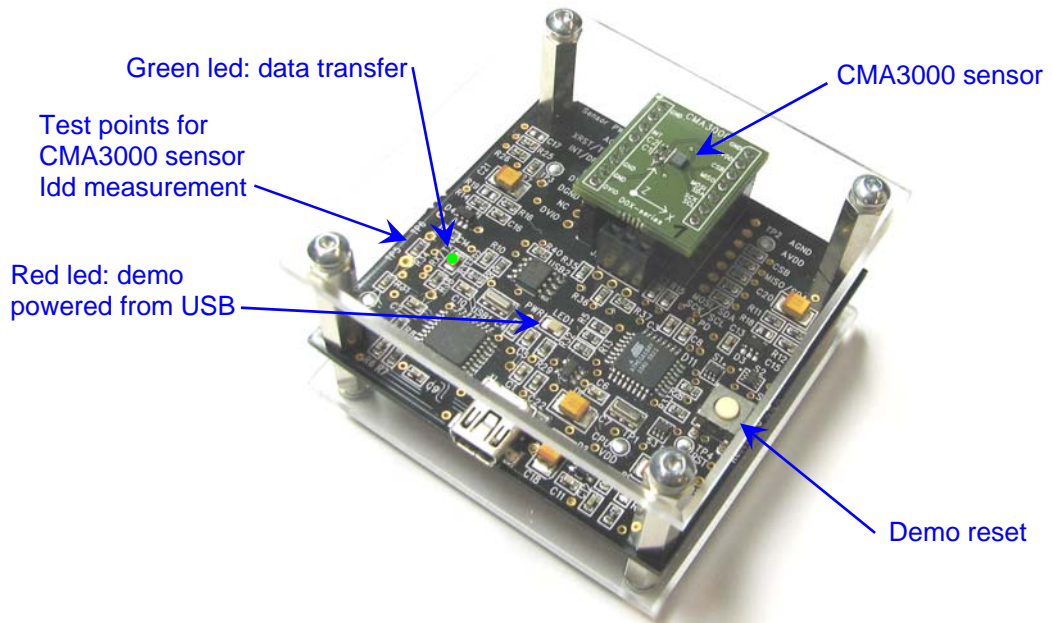
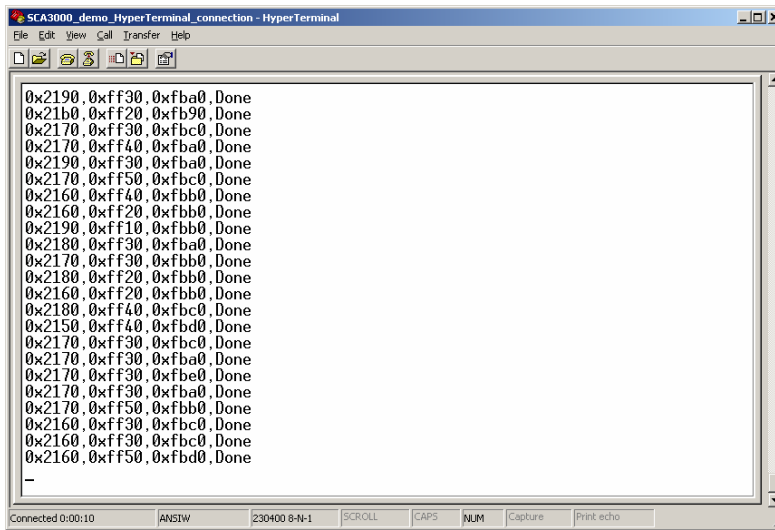

Figure 1. CMA3000 demo USB interface board and CMA3000 PWB.
Figure 13. SCA3000 demo output during data logging.
- CMA3000 sensor soldered on chip carrier PWB (see Figure 1 on next page)
- USB interface card (see Figure 1 on next page)
The CMA3000 DEMO KIT USB interface board (black PWB) and CMA3000 PWB (green PWB) are shown in Figure 1. The USB interface card converts the USB interface to SPI or I2C interface. CMA3000 sensor is soldered on PWB which is connected to interface board.
MCU can be reset by exiting from the GUI and then pressing the reset button (Figure 1) on USB interface board.
5. Press demo reset button (see Figure 1). CMA3000 DEMO KIT sends an info text to HyperTerminal (see Figure 13). If the HyperTerminal software is unable to connect the CMA3000 DEMO KIT or the info text does not appear,
until info text appears to HyperTerminal screen (see Figure 13).
- see if the info text appears on the screen (see Figure 13)→ if the info text is transmitted, the communication between the demo kit and PC is ok